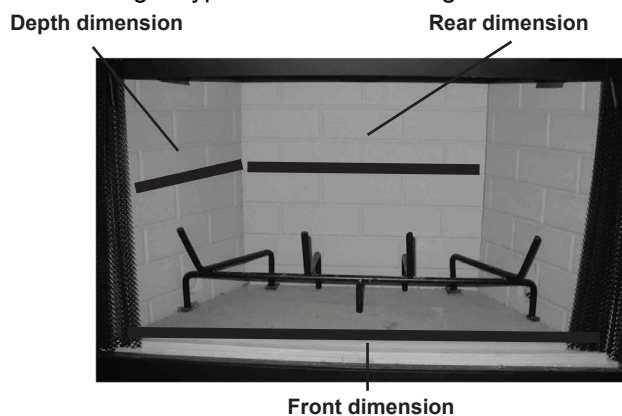

Figure 2.1 Measure Firebox
- Review the attached tags before proceeding. Ensure that all minimum fireplace dimension requirements are achieved using Table 1 in Section 1.B. See Figure 2.1. Ensure the gas type provided in the fireplace coincide with the gas type marked on the tag.